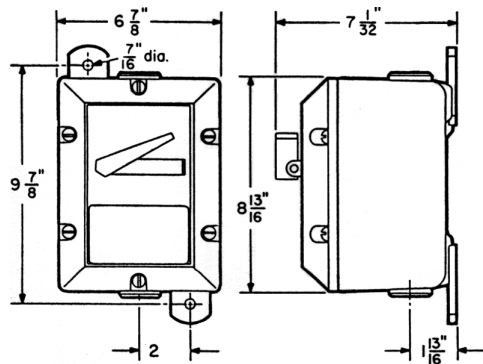

Figure 1 - Dimensions
1. Select a mounting location that will provide suitable strength and rigidity for supporting all contained wiring and control devices. Figure 1 shows the mounting dimensions of EMN Series enclosures. Drill two 7/16 inch mounting holes.